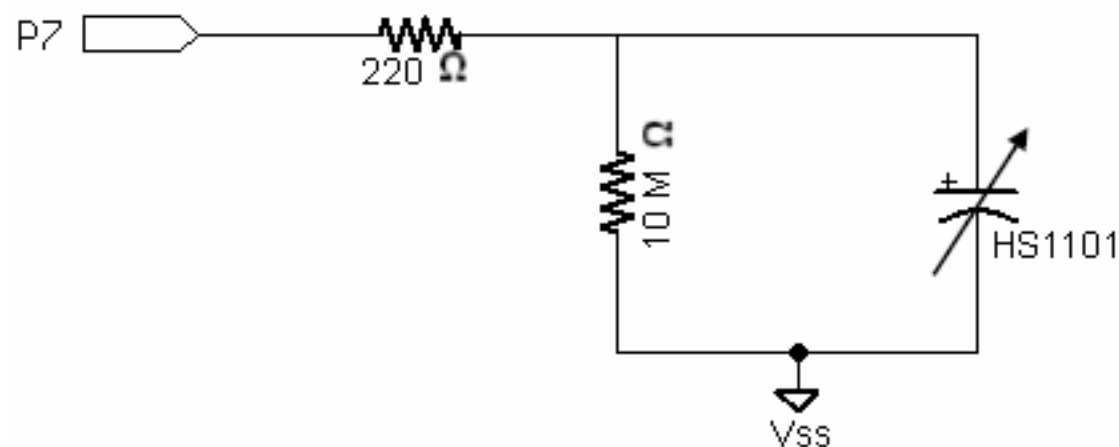
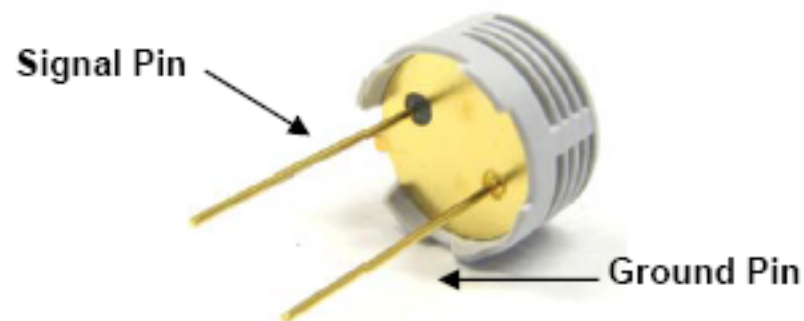

Figure 1: Sample RC Application Circuit
Figure 2: Signal and Ground Pins
Connecting the HS1101 to a microcontroller is demonstrated here with a BASIC Stamp module. It is a straightforward application, requiring only one I/O pin. Since the HS 1101 is based on a unique capacitive cell, relative humidity can be obtained using a simple RC wiring diagram, as shown in Figure 1.
- √ Build the circuit shown in Figure 1. Be sure the negative side of the sensor is connected to ground as shown in Figure 2!